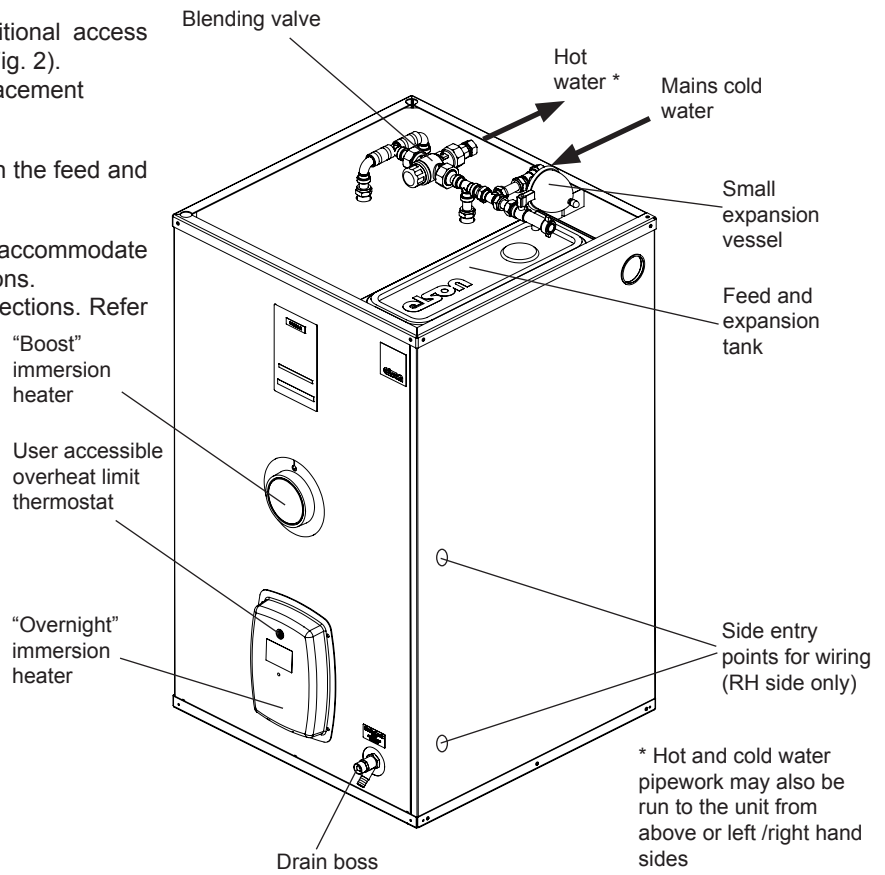

Fig. 2 Coral E Manual Fill Thermal Store Detailed
A minimum 10 mm is required at each side (additional access for the wiring is required at the right hand side, see Fig. 2).
Refer to Fig. 2 for the recommended route of the pipework to the unit.
3. Connect the mains cold water supply to the unit. See Fig. 2. Ensure that an isolating valve and a Y type line strainer are fitted just before the unit. In hard water areas it is recommended that a scale reducer is fitted in the mains cold water supply to the unit.
3. Connect the immersion heaters to the controllers using the correct cable as described above. Route the cables through the RH side entry points as shown in Fig. 2.